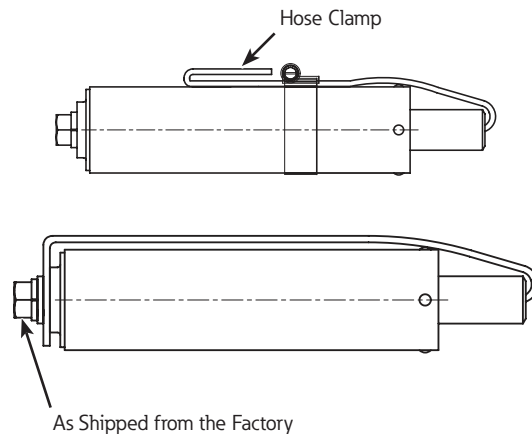

Figure 5. NXC fuse shown with leader retained for transportation.
2. Remove leader wire from the hex-head bolt supplied with the fuse. If a hose clamp is supplied with the replacement fuse, remove the clamp from the fuse before fuse installation (see Figure 5).